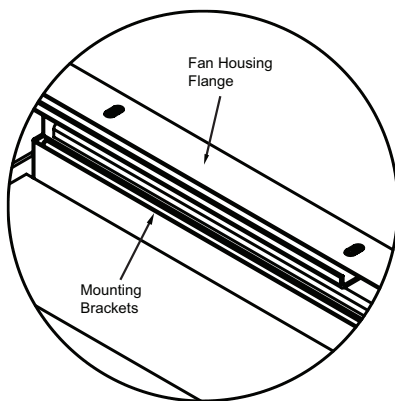
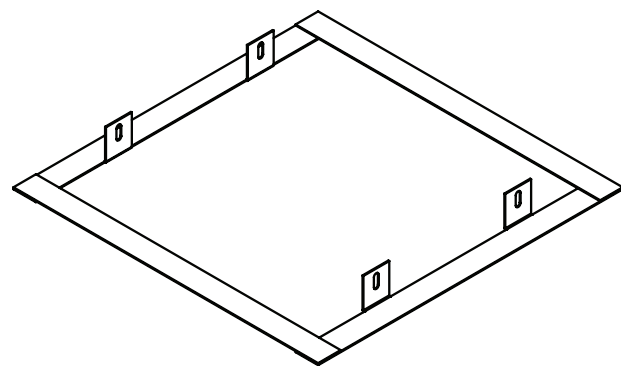

Figure 3
Figure 4
4. With the damper secured to the fan housing, attach the supplied mounting brackets. Position the mounting brackets under the damper mounting flanges or under the fan housing flange as required. Position the slot so it aligns with the holes in the fan housing and/or the holes in the damper mounting flanges (See Figure 3). The brackets can be adjusted to fit between the damper supports. Once the brackets are adjusted, attach them to the flange of the fan housing using four #10-32 screws and nuts supplied. A minimum of two fasteners per side is required.
5. Fasten the support brackets to the damper supports with a minimum 2" (51) long #8 wood screws at a minimum of 1 place per bracket. Be sure the bottom of the damper/fan will be flush with the bottom of the gypsum once it is installed. Locate the damper/fan based on the presence of a resilient channel and gypsum thickness. Please refer to the appropriate UL floor/ceiling or roof/ceiling design for reference.
6. Once the gypsum is in place install the drywall support assembly (See Figure 4) to the damper using the #8 course threaded screws supplied at four places minimum. The drywall support assembly must be installed snug to the bottom of the gypsum so the gypsum is resting on the drywall support assembly.